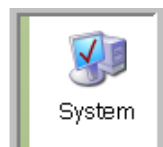

FIG. 233
2. Double click on the System Icon (FIG. 233).